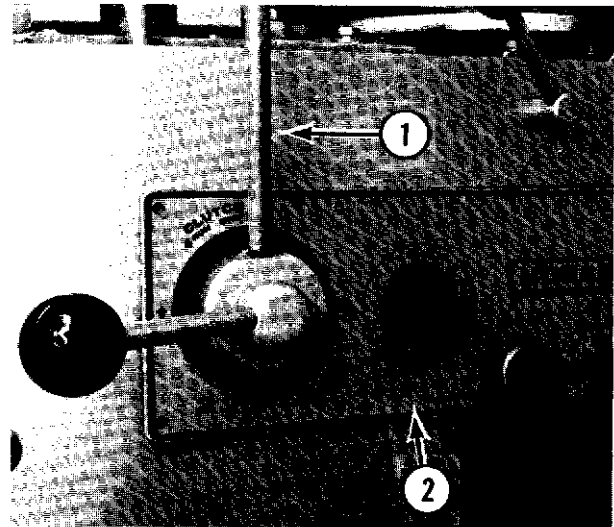
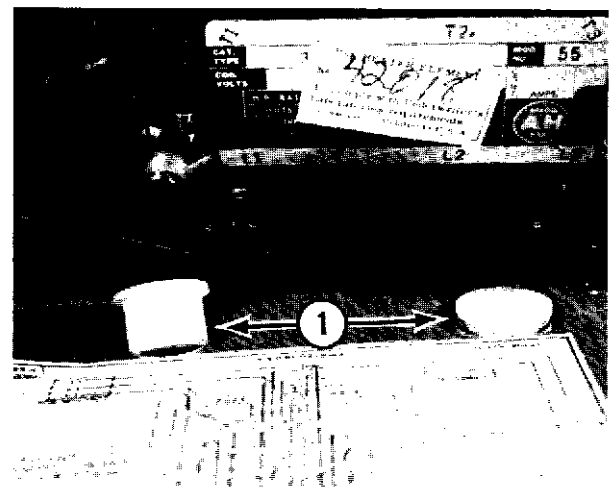

Fig. 11-1
Fig. 11-2
- G. Unscrew the clutch handle (1, Fig. 11-1).
- H. Remove the switch plate (2, Fig. 11-1). Do not lose the switch push buttons (1, Fig. 11-2).